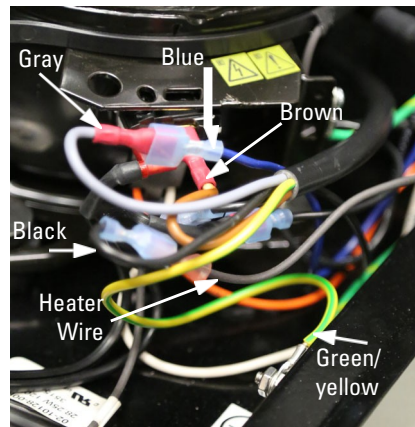

Figure 5: Disconnect compressor wires
7. Disconnect the four (4) compressor wires from the power supply cable (Figure 5).
12. Reconnect the four (4) compressor wires to the power supply cable (Figure 5):